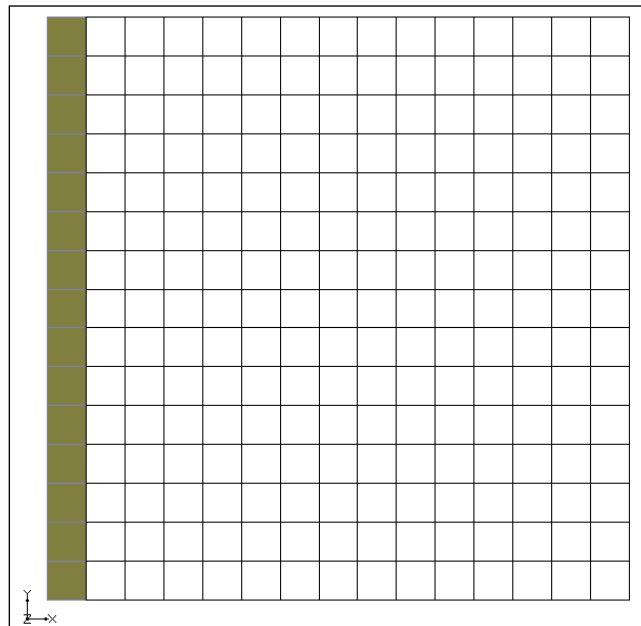

Figure 3 Highlight the leftmost column
- Drag a box around all of the cells in the leftmost column of the grid to highlight them (Figure 3).